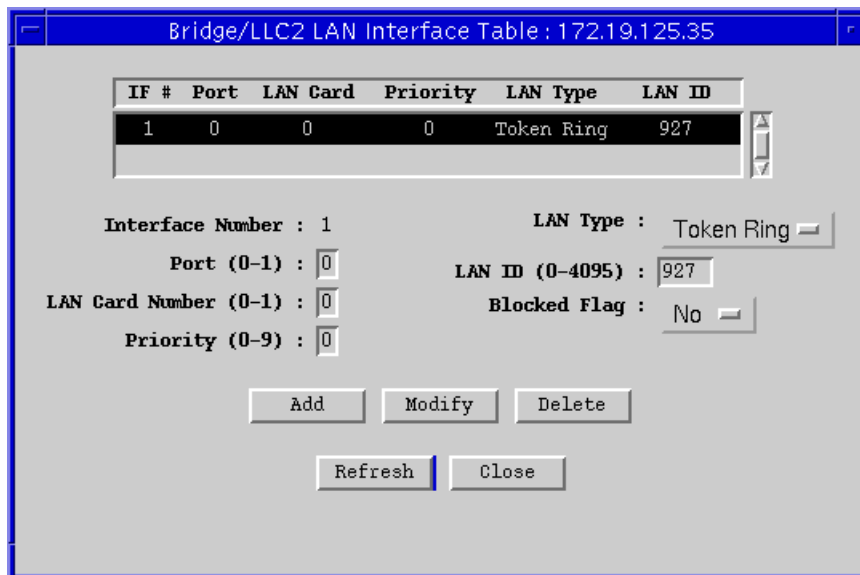

Figure 11-3. Bridge/LLC2 LAN Interface Table
2. Drag down to **Bridge/LLC2 LAN Interface Table**, and release. The Bridge/LLC2 LAN Interface Table, Figure 11-3, will appear.